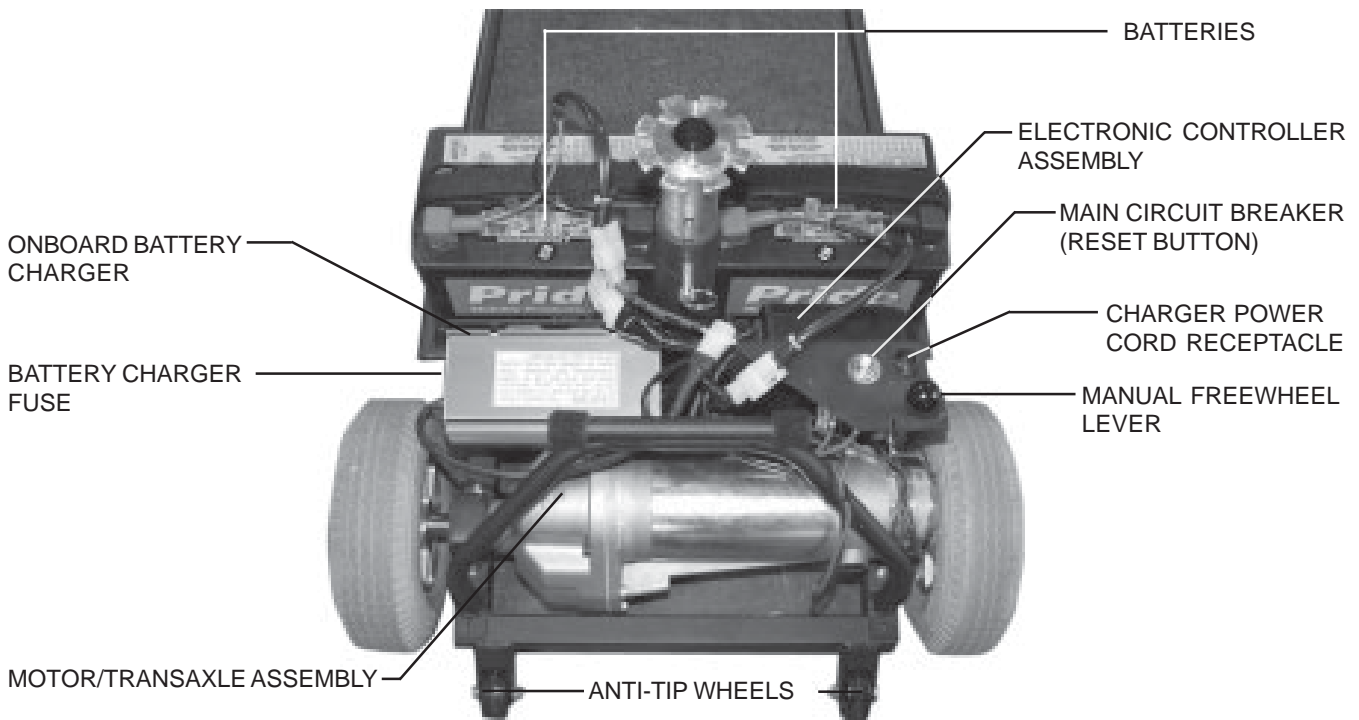

Figure 7. Rear Section
The onboard battery charger, the charger power cord receptacle, the battery charger fuse, the batteries, the electronic controller assembly, the main circuit breaker, the manual freewheel lever, and the motor/transaxle assembly are located on the rear section of your scooter. See IX. “Disassembly and Assembly” for instructions on removing the rear shroud. The anti-tip wheels are at the rearmost part of your scooter. See figure 7.
- The charger power cord plugs into the battery charger by means of a receptacle located on the rear section of your scooter, near the manual freewheel lever and the main circuit breaker reset button. See figure 7.
- The main circuit breaker is mounted on the rear section of the scooter, near the manual freewheel lever. See figure 7.
Whenever you need or want to push your scooter for short distances, you can put it in freewheel mode. See figure 7.
The motor/transaxle assembly consists of a geared transmission and differential. This one piece, direct drive, fully sealed assembly provides quiet operation with maximum power and long life. See figure 7.